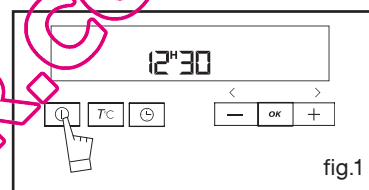

fig.1
Press the ① touch control (fig.1).
The pyrolysis duration by default displays 2:00 (fig.1), but you can make this longer or shorter.